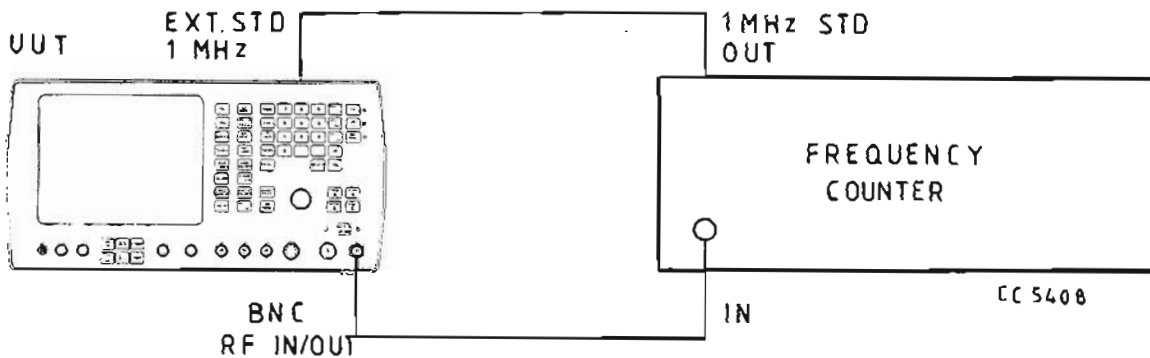

Fig. 21 Test equipment connections for r.f. generator r.f. accuracy performance checks
- (1) Connect the equipment as shown in Fig. 21.